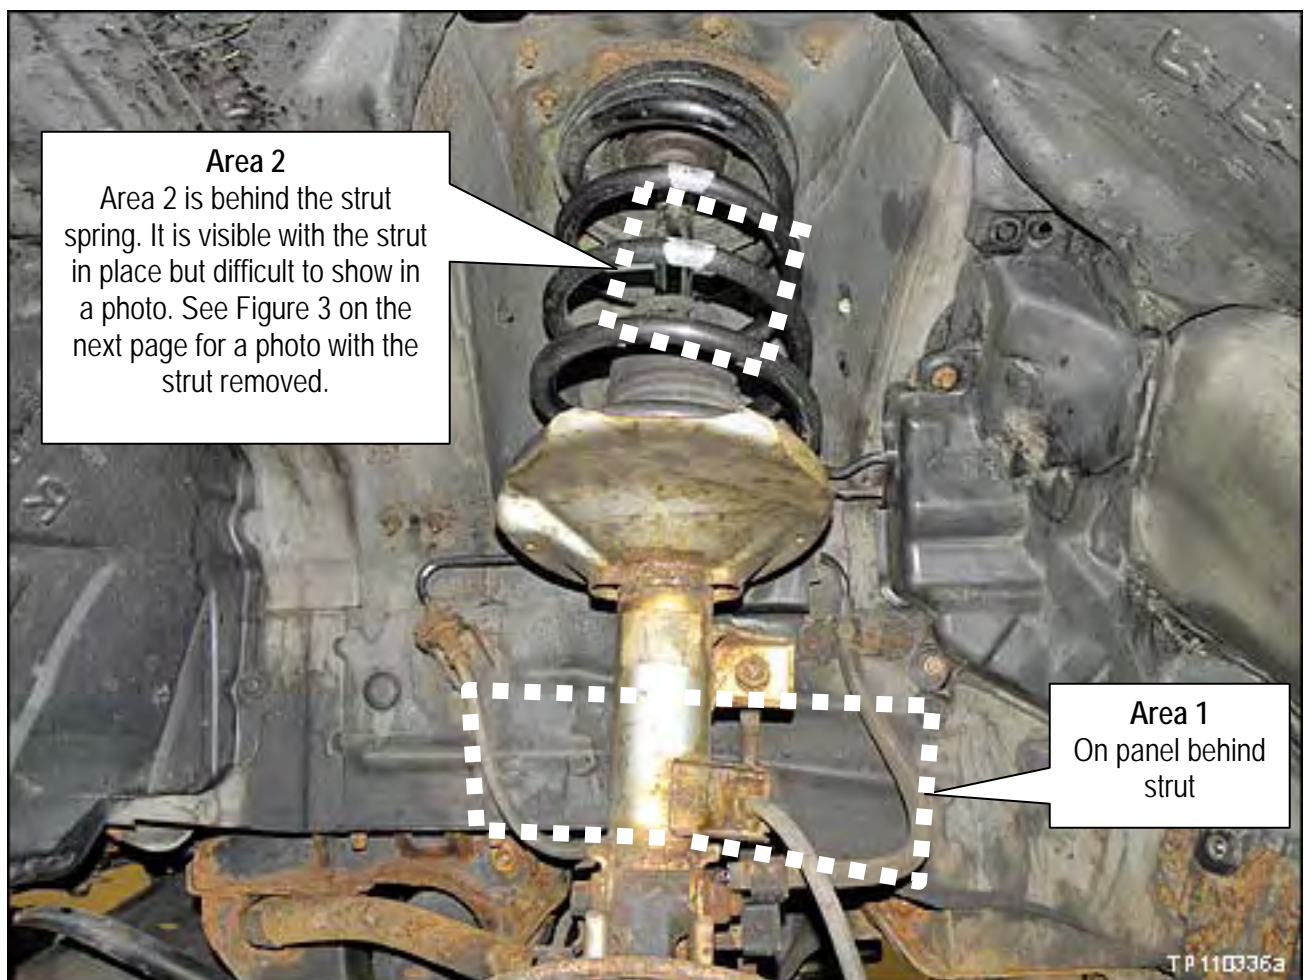

Figure 1
3. Inspect for corrosion on the driver side in the strut housing **Area 1** and wheel house **Area 2** (see Figures 1, 2, 3, and 4).